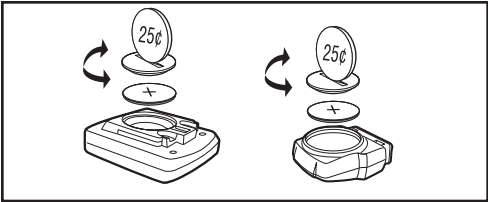

FIGURE 1
STEP 1: Remove the battery cover from the underside of the computer using a coin. See Figure 1. Remove the old battery and dispose of it properly.
STEP 1: Remove the battery cover from the back of the transmitter using a coin. See Figure 1. Remove the old battery and dispose of it properly.